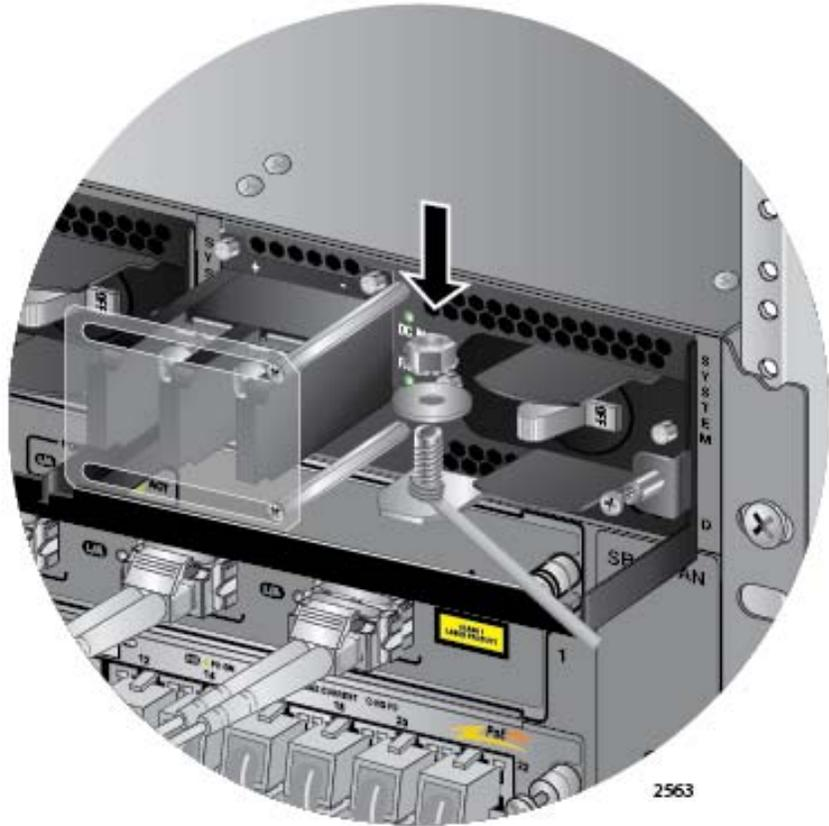

Figure 118. Securing the Bare Grounding Wire to the Grounding Post
4. Secure the wire with the nut and washer removed in step 2, and an 8 mm wrench, as shown in Figure 118.